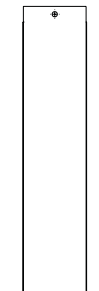

Figure 34
TABLE 3 - MINIMUM DIMENSIONS (in inches) FOR FIGURES 34 - 36
2. The brackets have a perforation located on each end. Bend them at the perforation. See Figure 34.